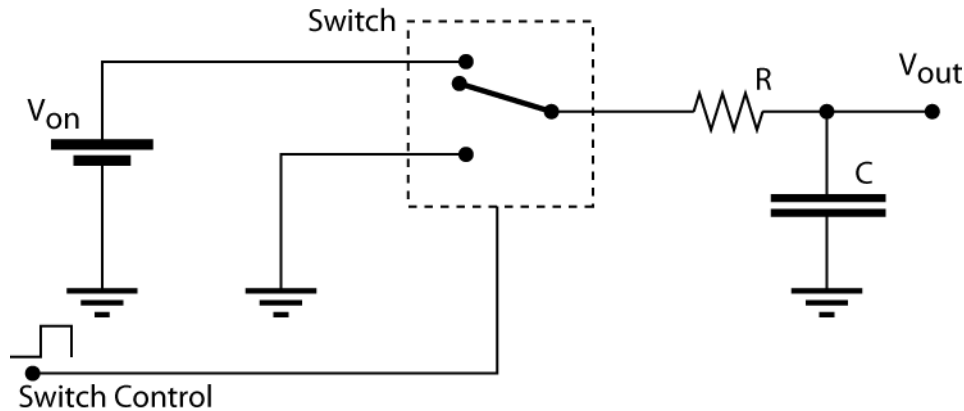

Figure 14.1.2. Pulse Width Modulation circuit with an external (electronic) switch control to turn the switch on or off.
Let us determine mathematical relationship between  $\tau_{on}$  and  $\tau_{off}$  and the "perceived" average intensity. An analogous model of the eye and its response can be represented by the circuit shown in Figure 14.1.2. In this model,  $V_{on}$ , would be analogous to the maximum light intensity; the RC low pass filter acts like an averager, representing our eyes; finally,  $\langle V_{out} \rangle$  is the average output voltage and it corresponds to the perceived intensity. Therefore, we would like to calculate  $\langle V_{out} (RC, \tau_{on}, \tau_{off}) \rangle$ .
If the output from the module were connected to a low pass filter with a large RC time constant, (see figure 14.1.2.) then we would find that  $\langle V_{out} \rangle$  is:
- 14.1.1. For  $RC \gg \tau_{SWC}$ , calculate  $\langle V_{out} (RC, \tau_{on}, \tau_{off}) \rangle$  using the circuit shown in Figure 14.1.2. (Hint: find a (differential) equation for the change in voltage,  $dV$ , across the capacitor during  $dt = \tau_{on}$  and  $dt = \tau_{off}$ . Note that  $V_{in}$  during  $\tau_{on}$  is  $V_{on}$  and it is 0 during  $\tau_{off}$ . Finally, for the output to remain around a fixed (steady state) value,  $\langle V_{out} \rangle$ ,  $dV$  during the on time must be equal to  $-dV$  during the off time.)